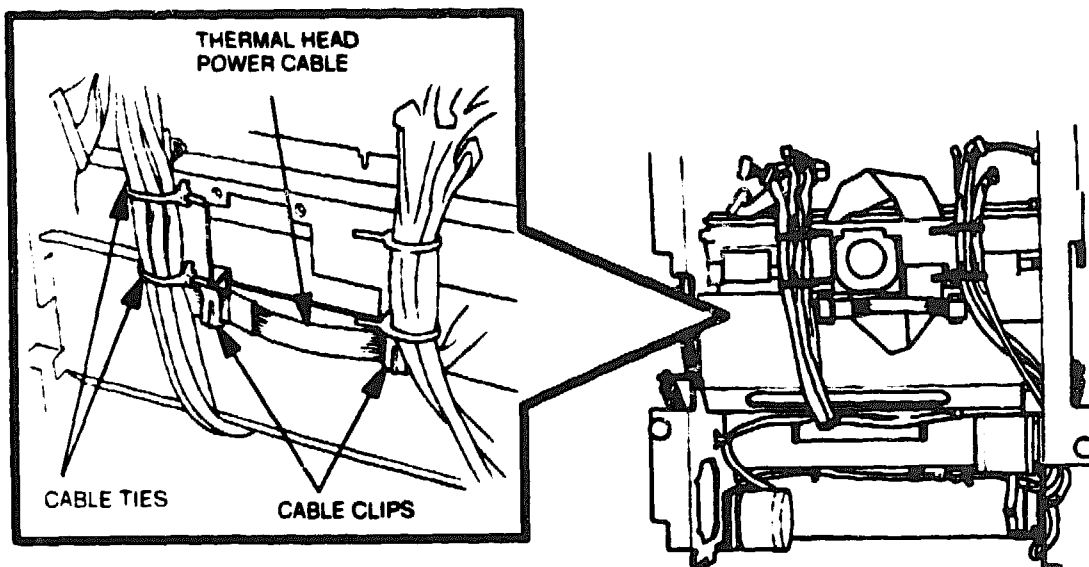

Figure 6-75 Thermal Head Power Cable Removal
2. Remove the mechanism unit and place the unit on its side on the worktable so the bottom of the unit is exposed (see Figure 6-75).
3. Disconnect the head power cable and release it from the two cable clips (see Figure 6-75)